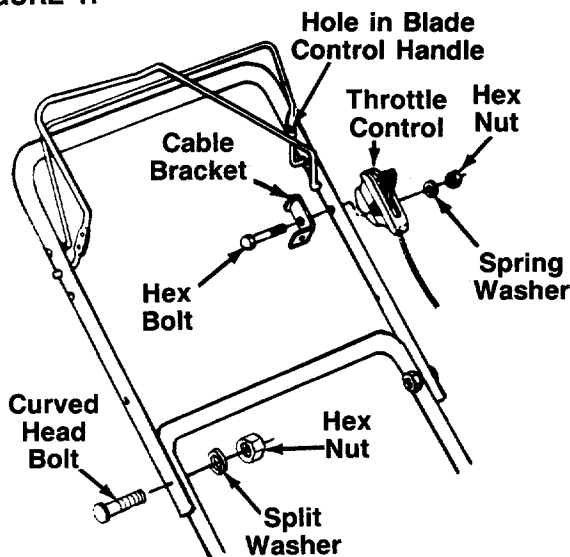

FIGURE 2.
2. Secure the upper handle to the lower handle using the curved head bolts, split washers and hex nuts as shown in figure 2.
The throttle control is attached to the engine. Attach the cable bracket and throttle control to the left side of upper handle as follows. See figure 2.